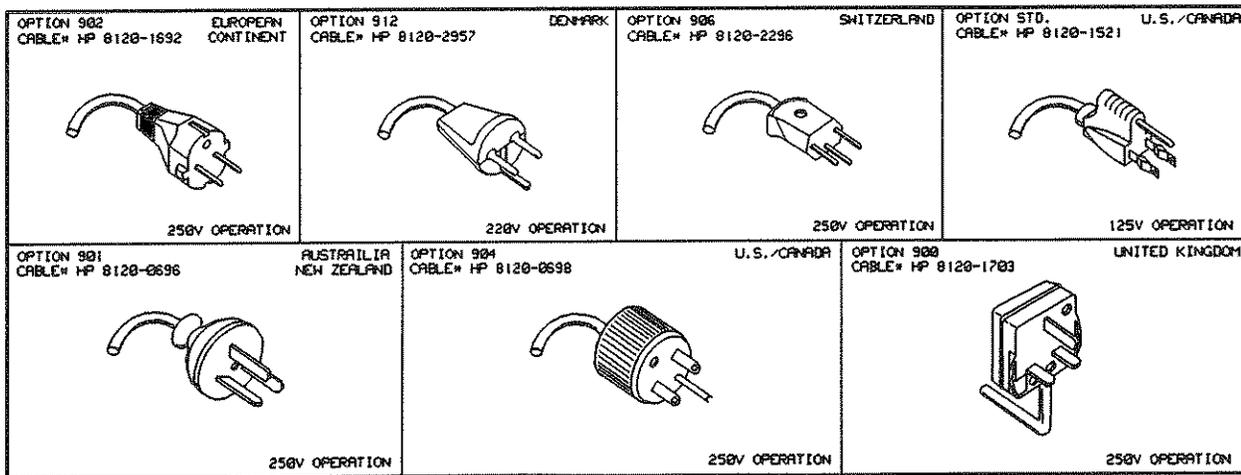

Figure 2-1. Power Cord Configurations
**2-5. POWER CABLE.** This instrument is equipped with a three-wire power cable. When connected to an appropriate AC power outlet, this cable grounds the instrument cabinet. The type of power cable plug shipped with the instrument depends on the country of destination. See figure 2-1 for option numbers of power cables and plug configurations. Part numbers for each cable option are listed in the replaceable parts section of this manual.